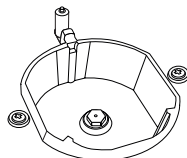

Figure 6
2. Please remove nozzle (Figure 6) from burner with special nozzle driver and install new nozzle. (Figure 7)